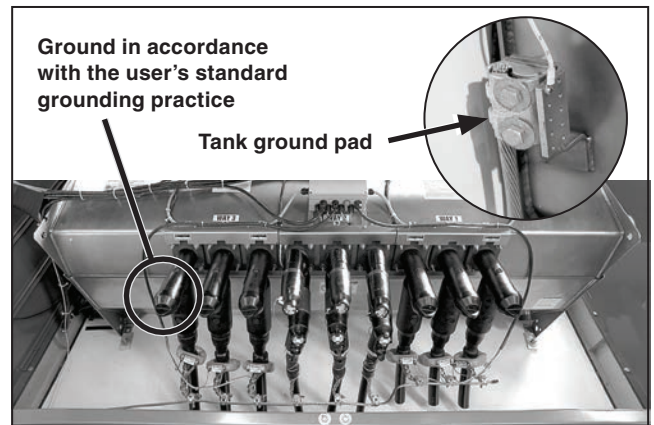

Figure 21. Attach the G1 ground wire to the tank.
- The “G1” ground wire is labeled and located in the low-voltage compartment. Carefully insert the “G1” wire from the low-voltage compartment through the PVC pipe into the main enclosure. Connect the G1 wire to the copper ground angle located on the tank. See Figure 21.